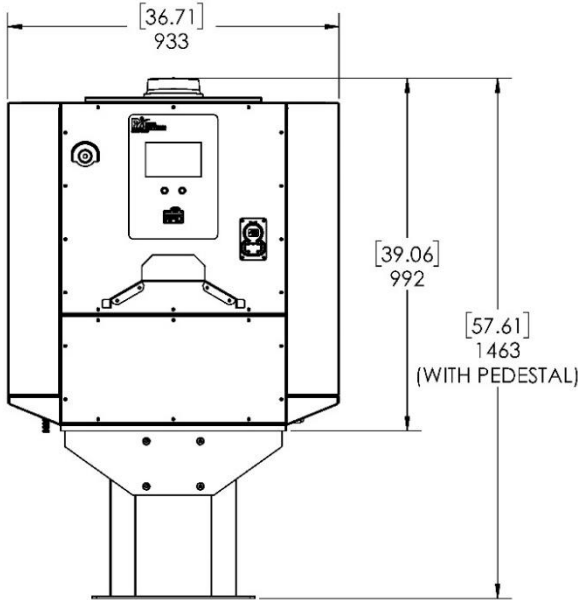

Figure 2.1—Height and Width of 30kW Charger and Pedestal
1. Become familiar with essential dimensions of EV Quick Charger Model EVQC030-3xxx, Pedestal Model EVQC030-PEDP, and Wall-mount Bracket EVQC030-WMK as shown in Figures 2.1, 2.2, 2.3, and 2.4.